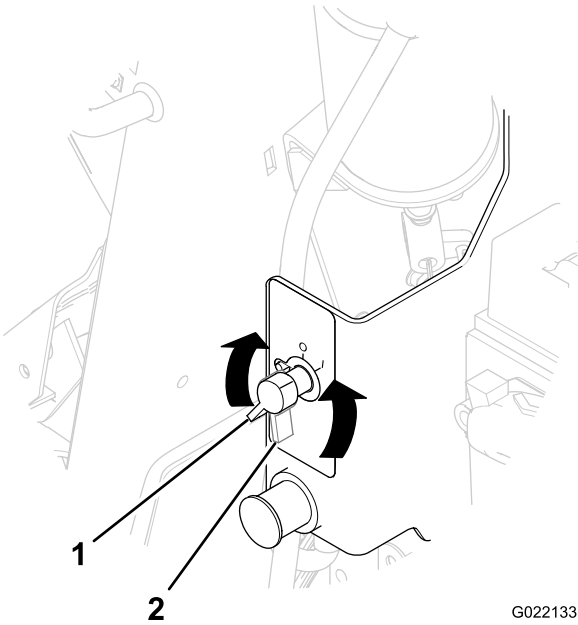

Figure 60
- 2. Rotate the battery-disconnect switch counterclockwise to the Off position (Figure 60).